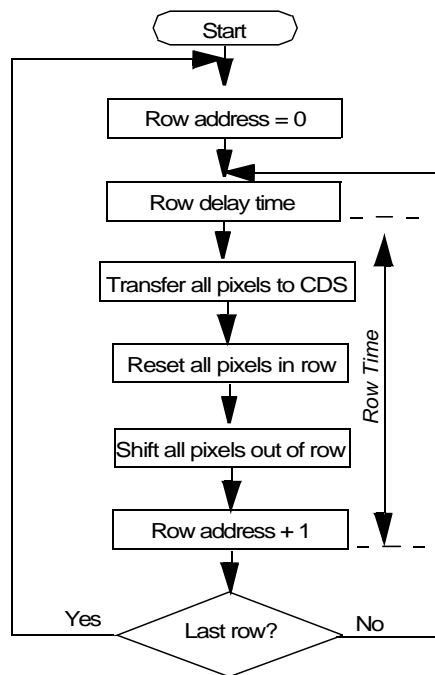

Figure 23. Frame Readout Flow Diagram
A frame is defined as the time it takes to reset every pixel in the array, integrate the incident light, convert it to digital data and present it on the digital video port. This is not a concurrent process and is characterized in a series of events each needing a certain amount of time as shown in Figure 23.
- $R_{opcycle}$ is a fixed integer value of 780 representing the *Row Operation Cycle Time* in multiples of $Hclk$ clock cycles. It is the time required to carry out all fixed row operations outlined in Figure 23.